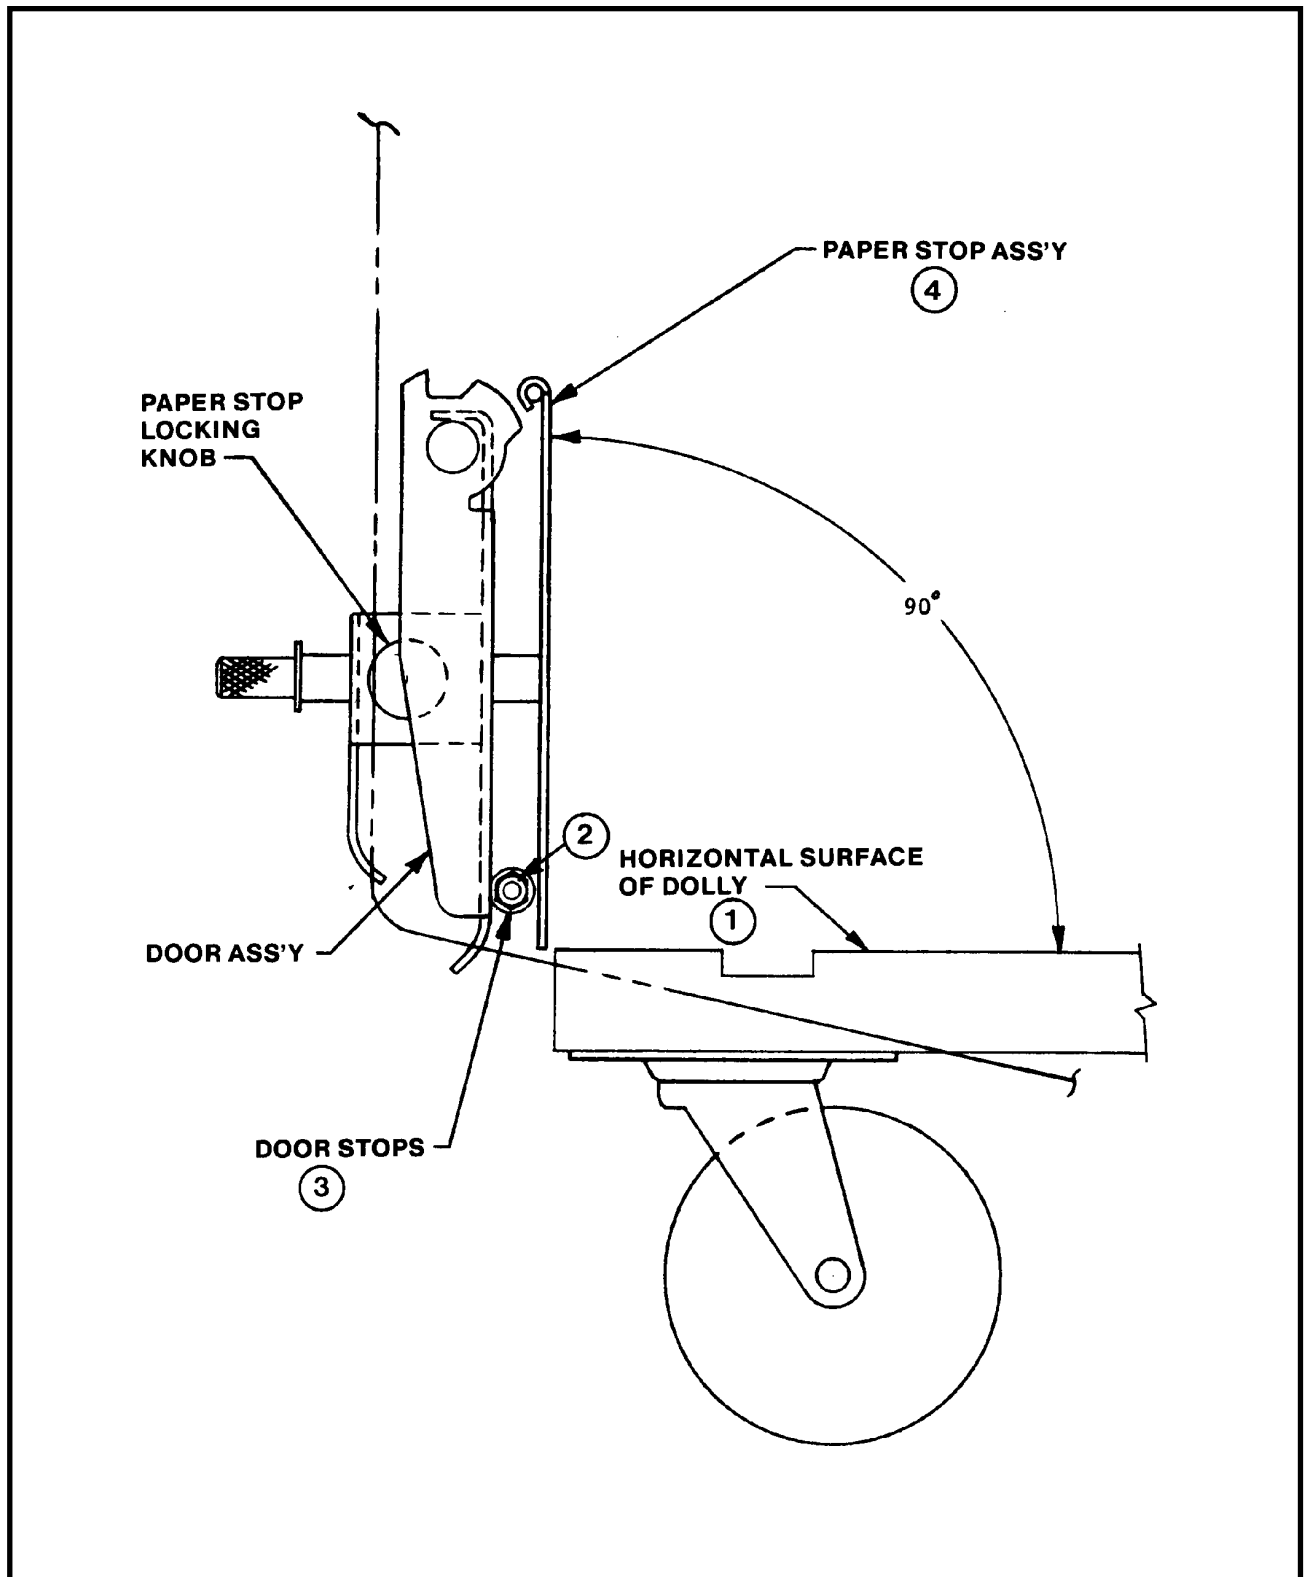

Figure 66 - Chain Delivery Paper Stop
The paper stop assembly must be at 90° to the horizontal surface of the dolly with the paper stop locking knob tightened (see Figure 66).
- a. Loosen the nuts (2) that mount the door stops (3) and position the door stops so that the paper stop assembly (4) is at 90° to the dolly (see Figure 66).
- b. Tighten the nuts (2).